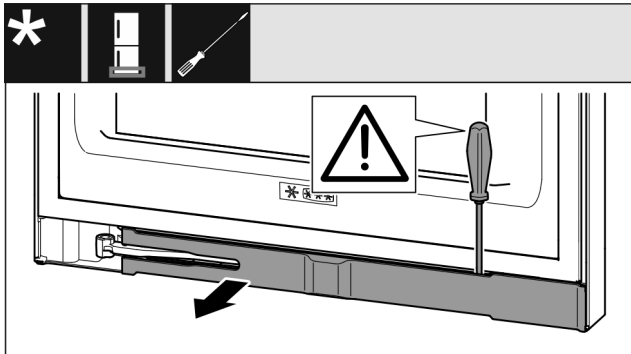

Fig. 13
- Unlatch the panel with a slotted screwdriver and swivel it to one side Fig. 13 ().